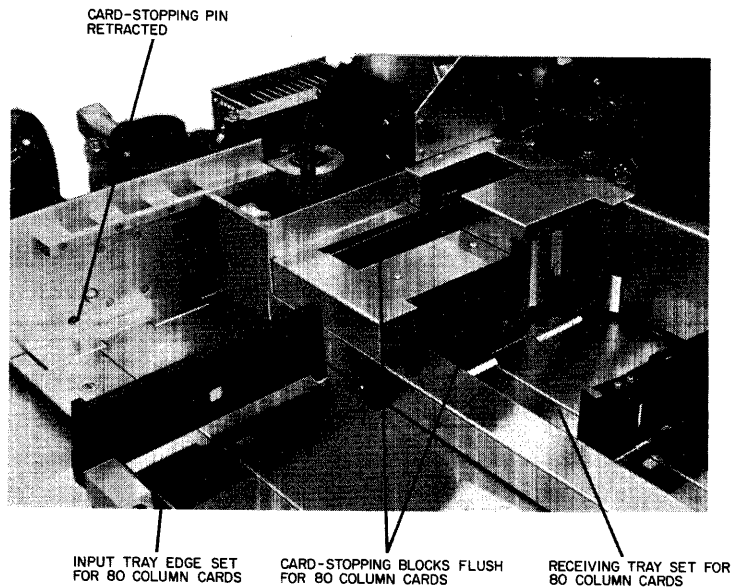
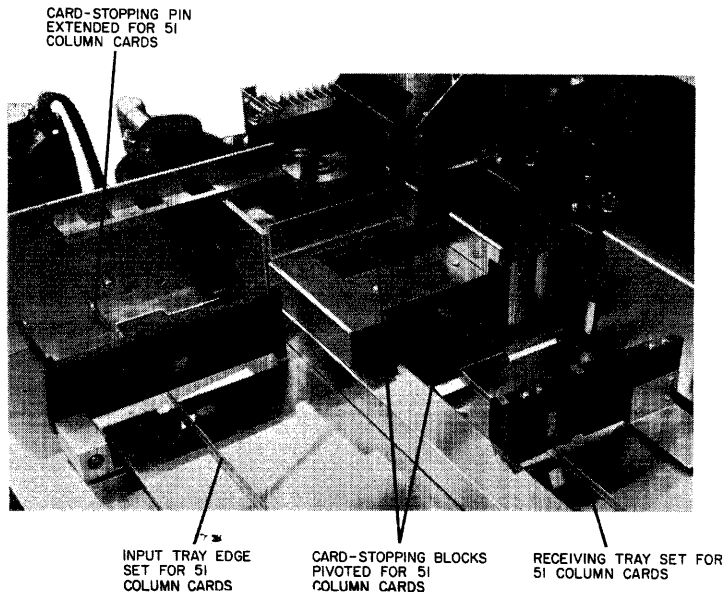

Figure Z-2. Card Trays Set for 80-Column Cards
Figure Z-3. Card Trays Set for 51-Column Cards
- 3) Check input wall of secondary and main receiving trays if 80-column (long) cards are used. Hinged card-stopping blocks should be positioned so that a flush surface is formed at each input wall (Figure Z-2). The hinged block assemblies must be pivoted to protrude from the wall surfaces of each receiving tray if 51-column (short) cards are to be used (Figure Z-3).
- 4) At input tray, set card-stopping pin to protrude from the face plate if short cards are to be used; turn pin clockwise to form flush wall if long cards are being used (Figures Z-2 and Z-3).